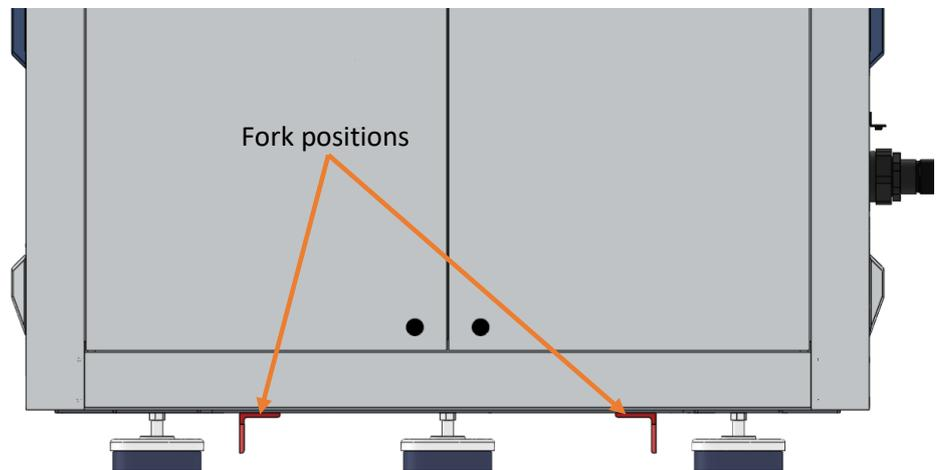

Figure 4 - Forklift zones
**ATTENTION:** The machine must be lifted in the forklift zones marked in (Figure 4 - Forklift zones). *Risk of Tipping Over!*